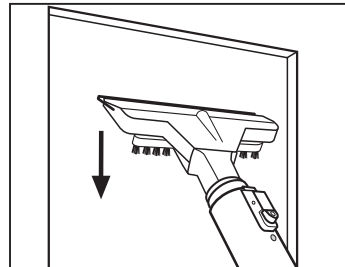

Fig. 11
- Press the rubber blade onto the surface and vacuum any water on the surface by moving the tool vertically from top to bottom (Fig.11).